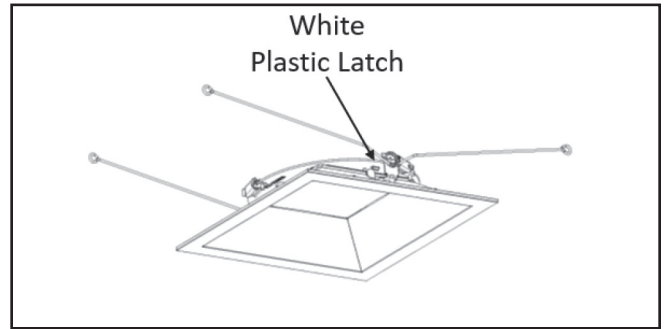

Figure 7
1. Press in on white plastic latch to remove upper reflector and clean lens. (Figure 7 & 8)